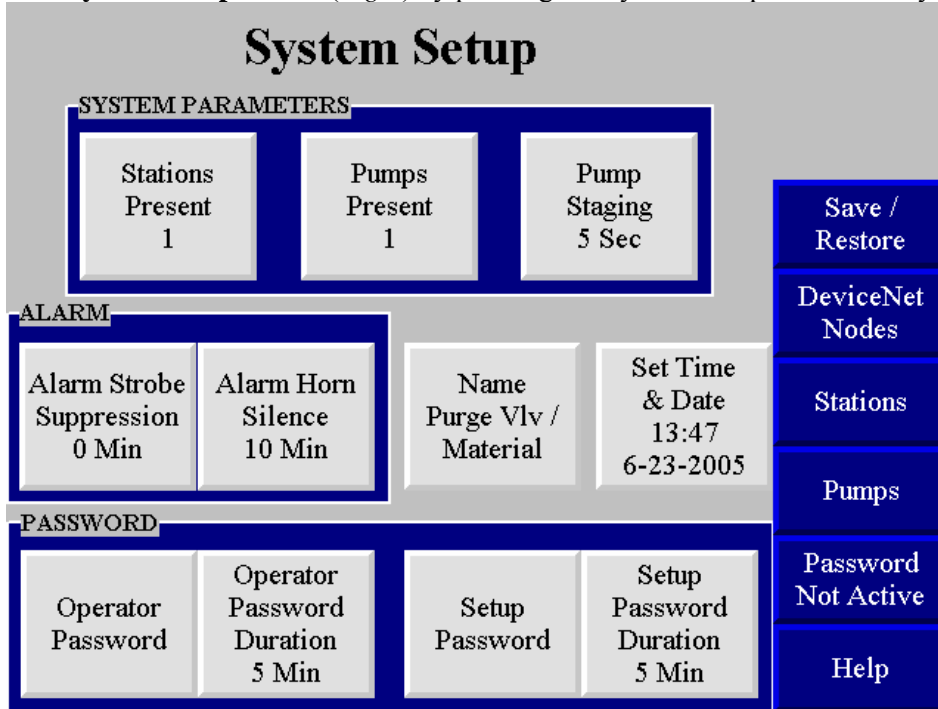

Fig 3
- Go to the **System Setup** Screen (Fig 3) by pressing the System Setup button on any screen.